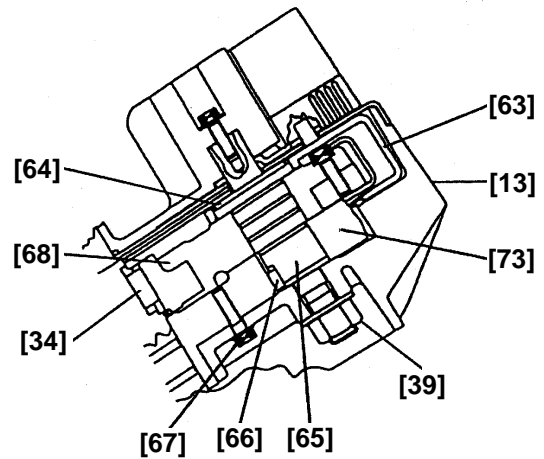

Fig. 20
(8) Disassembly of bracket (A) and (B) unit (Fig. 20)